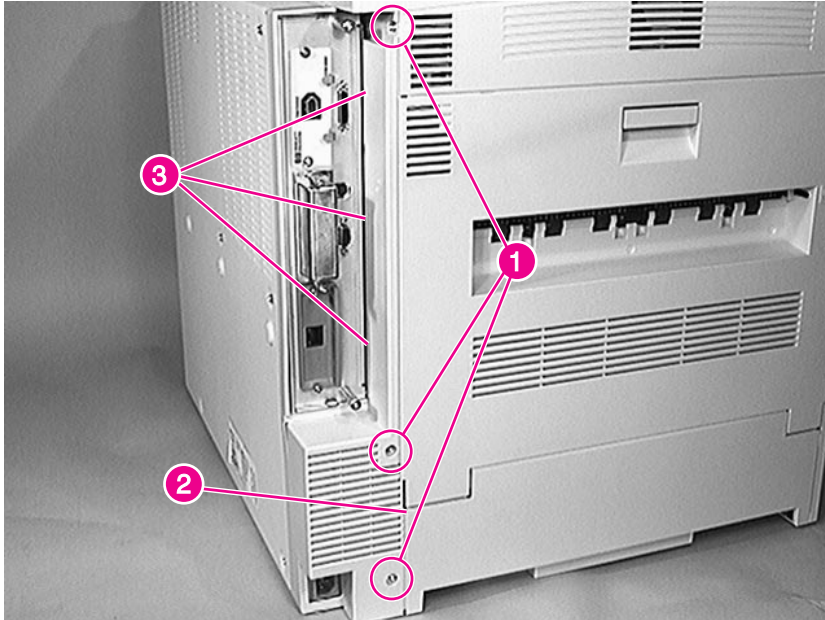

Figure 6-5 AC Access Cover
- 2 Remove 3 screws (figure 6-5, callout 1).
- 1 Insert the panel edge (figure 6-5, callout 2) inside the back cover (if installed).
- 2 Be sure to insert the three alignment tabs (figure 6-5, callout 3) into their slots before replacing the screws.
- AC Access Cover (see figure 6-5 on page 168)